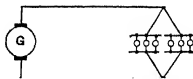

FIG. 95. The voltage at the generator must be higher than the voltage at the lamps.
**Prob. 48-5.** Each lamp in Fig. 95 takes 1 ampere at 115 volts. The lamps are 500 feet from the generator. The line wire is  $\frac{1}{8}$  inch in diameter. What is the voltage of the generator?